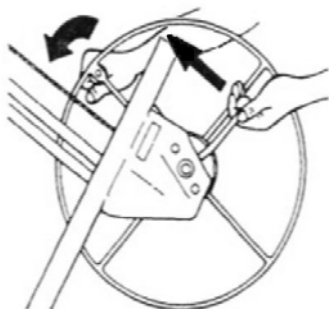
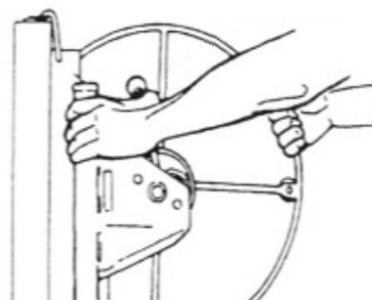

Figure 2
Figure 3
- Move the winch assembly **[10]** into working position by holding the wheel **[16]** and brake handle **[18]** as shown in figure 2. Push the brake handle all the way up while rotating the wheel slightly forward, grab the winch arm and secure the brake handle with your thumb to prevent backlash (figure 3).